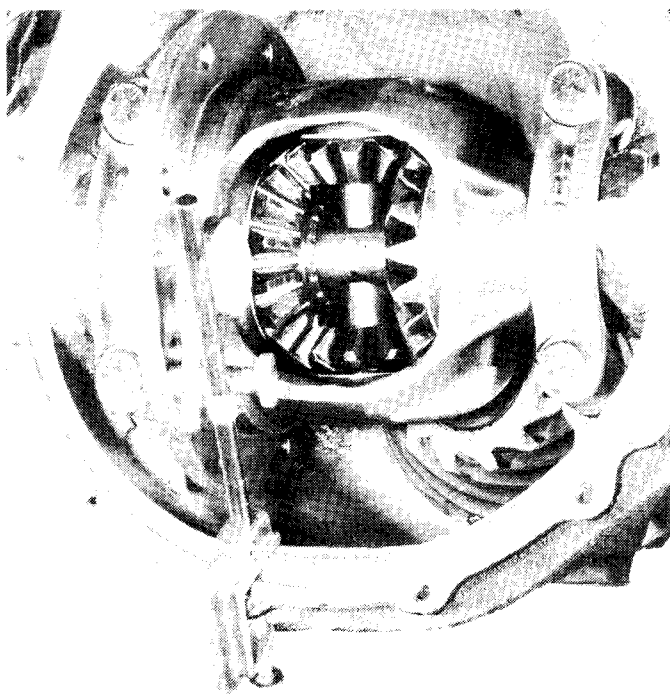

Fig. 10-46 Checking Ring Gear Face of Case for Runout
(3) Install bearing caps and tighten bolts finger-tight. Mount dial indicator as shown in figure 10-46.
(4) Using two screwdrivers, pry between shims and housing. Pry assembly to one side and zero indicator. Pry assembly to opposite side and read indicator.
(5) Amount read on indicator is amount of shim that should be added to arrive at zero preload and zero end play. Repeat procedure to ensure accuracy. Adjust if necessary.
(6) Shims are available in thicknesses from 0.080 to 0.110 inch in 0.002-inch variations.
(7) When sideplay is eliminated, a slight bearing drag will be noticed. Install bearing caps and tighten bolts to specified torque.
(8) Attach dial indicator to axle housing and check ring gear mounting face of differential case for runout (fig. 10-46). Runout should not exceed 0.002 inch.
(9) Remove case from housing. Retain shims used to adjust sideplay.